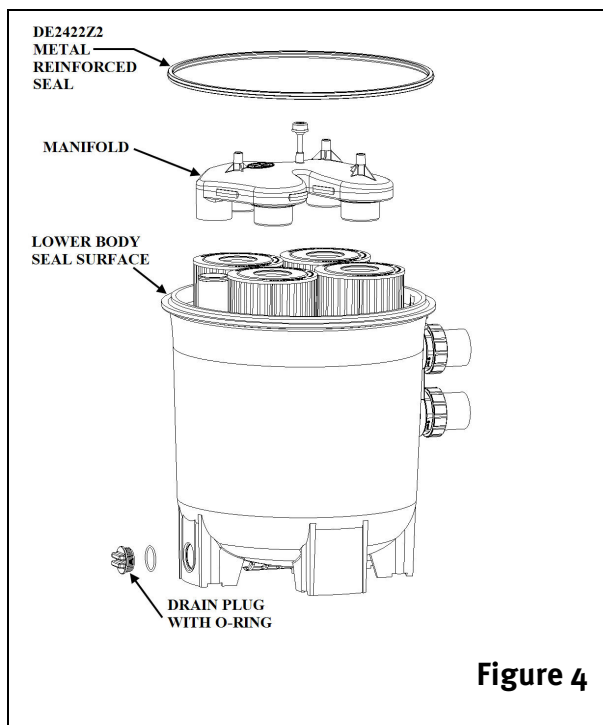
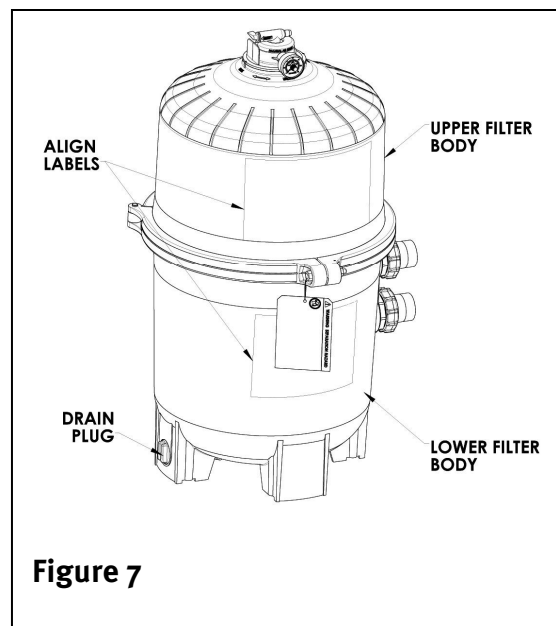

Figure 4
Figure 7
2. Close filter drain. NOTE: Filter plug requires an o-ring seal. (See Fig 4)
4. Remove filter drain plug (Fig 4) and drain water from filter.
1. Remove the top Manifold, which is exposed when the upper filter body is removed. (Fig 4)
2. With a clean cloth, wipe the lower filter body seal surface and clean seal of all dirt and debris. (Fig 4) Do not use a solvent.
1. Place the metal reinforced seal on lower filter body. (Fig 4) Place upper filter body on metal reinforced seal and lower filter body in a position which allows all operation and safety labels to be clearly visible and the upper filter body to be centered on the lower filter body. Press down firmly and evenly on the upper filter body to seat the seal. (Fig 7)
2. Replace the filter clamp around the upper and lower filter bodies. Hold the clamp ends to position the clamp on the filter bodies with the clamp ends adjacent to the safety and operation labels on the filter bodies. (Fig 7)